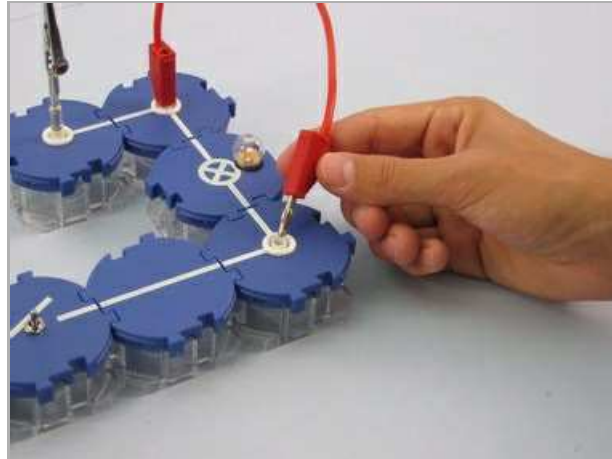

Fig. 4
- Use the extra connecting cord to bridge the two connections of the lamp, i.e. short-circuit them (Fig. 4) and observe what happens to the lamp and to the iron wire. Note your observations in the report.